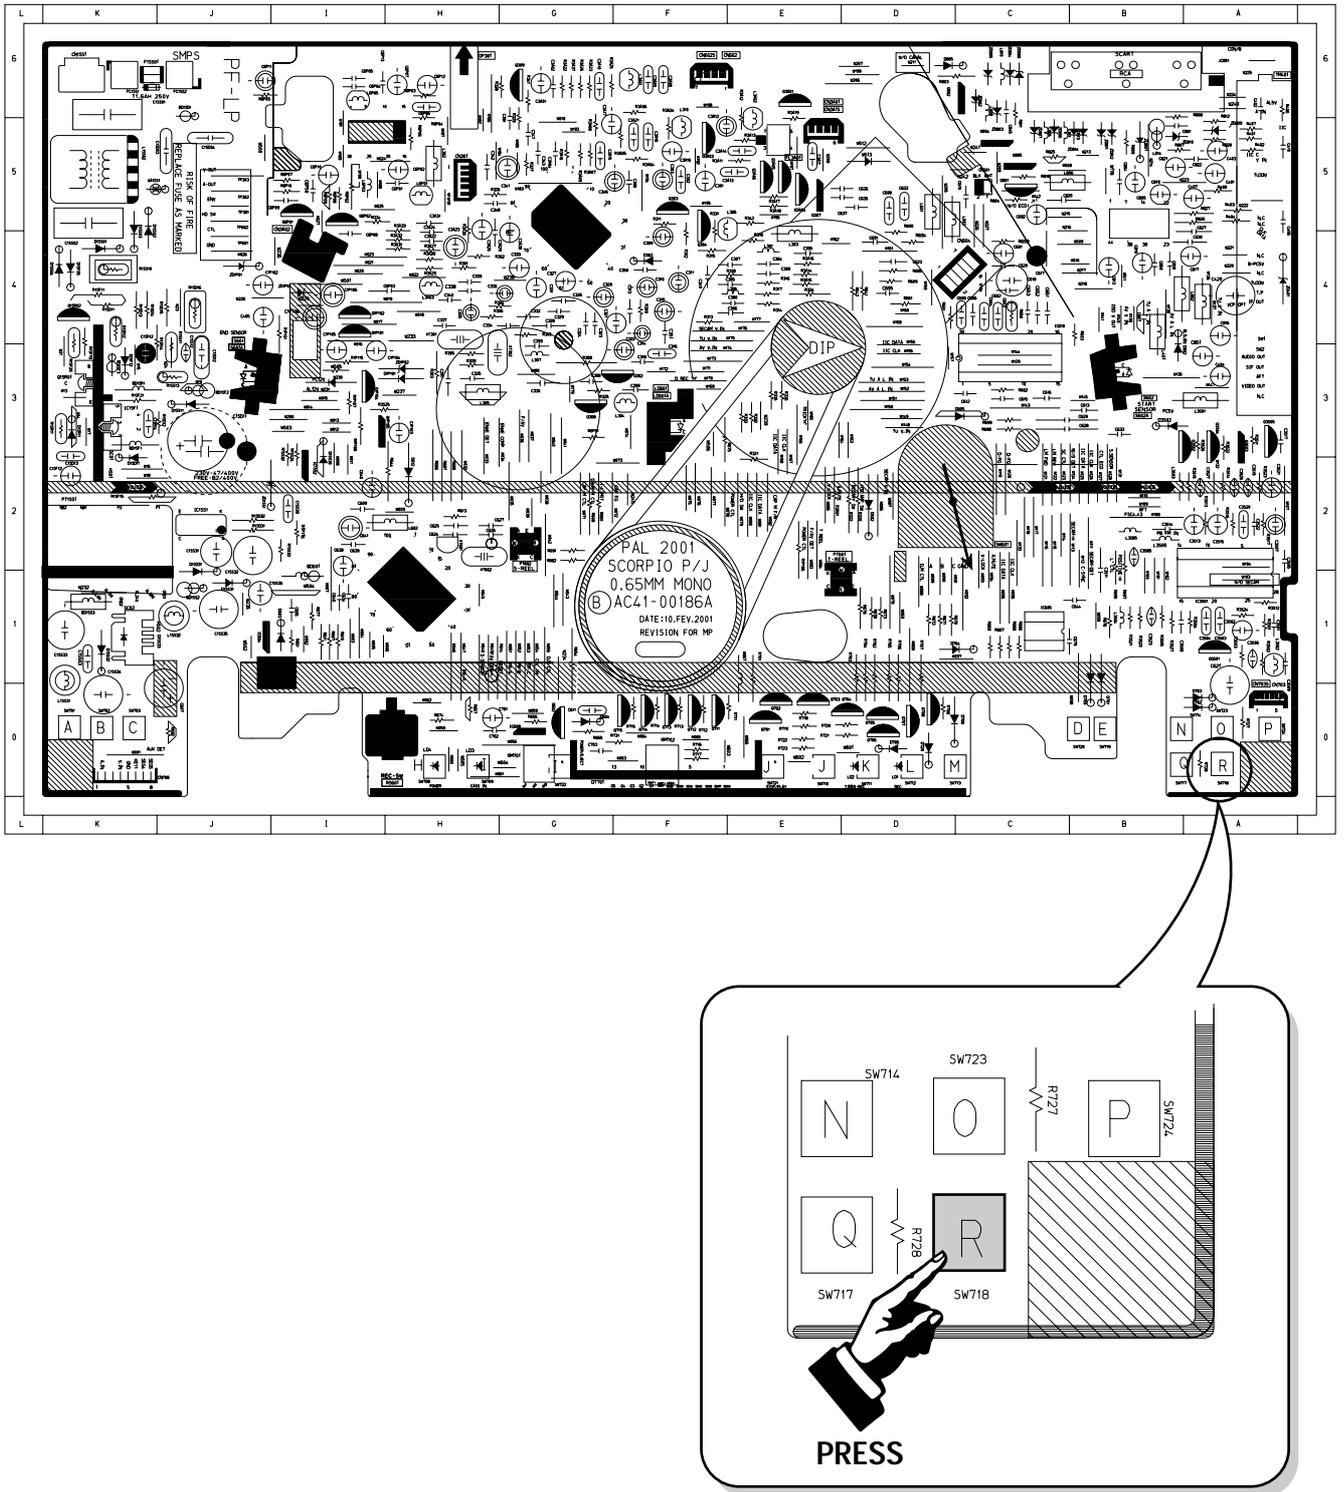

Fig. 2-2 Main PCB (Top View)
- 2) Press the “SW718” button on Main PCB to set the adjustment mode. (See Fig. 2-2)
- 2) Press the "SW718" button on Main PCB to set the adjustment mode. (See Fig. 2-2)
- 1) Press the "SW718" button on Main PCB to set the adjustment mode. (See Fig. 2-2)